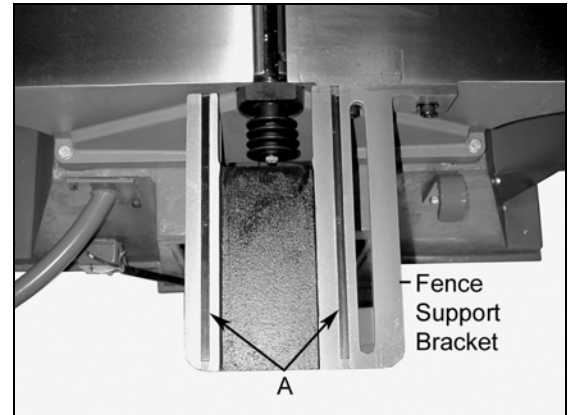
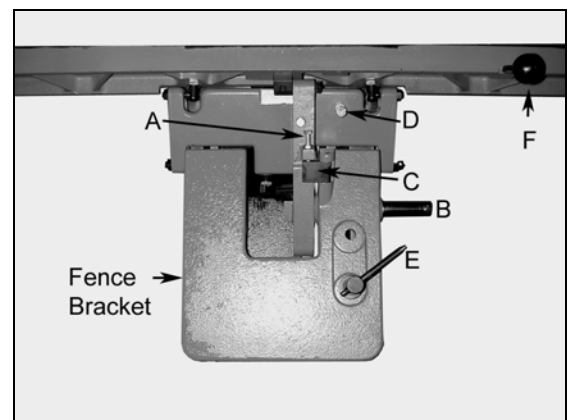

Figure 7
Figure 8
1. Set the fence bracket (Figure 8) on top of the fence support bracket (Figure 7) lining up the key slides 'A' with the guides on the bottom of the fence bracket. Install the width lock handle and special washer with the tabs facing up into the slot of the fence support bracket. For rabbeting the handle should be inserted into the rear hole as shown in Figure 8.
The various adjustments, locks and handles are shown in Figure 8.
2. Loosen the angle lock handle (B, Figure 8).
3. Ensure the 90 degree flip stop (C, Figure 8) is in the 90 degree position.
4. Loosen the jam nut on the 90 degree adjusting bolt (A, Figure 8) and adjust the bolt against the flip stop until the fence becomes true with the square.
To tilt the fence, see Figure 8. Loosen angle lock handle 'B', flip up the stop 'C', and tilt the fence with the fence angle adjusting handle 'F' to the desired angle. Use a protractor or adjustable triangle to set the angle. A 45 degree stop, 'D' is provided for quick set-up at this angle.